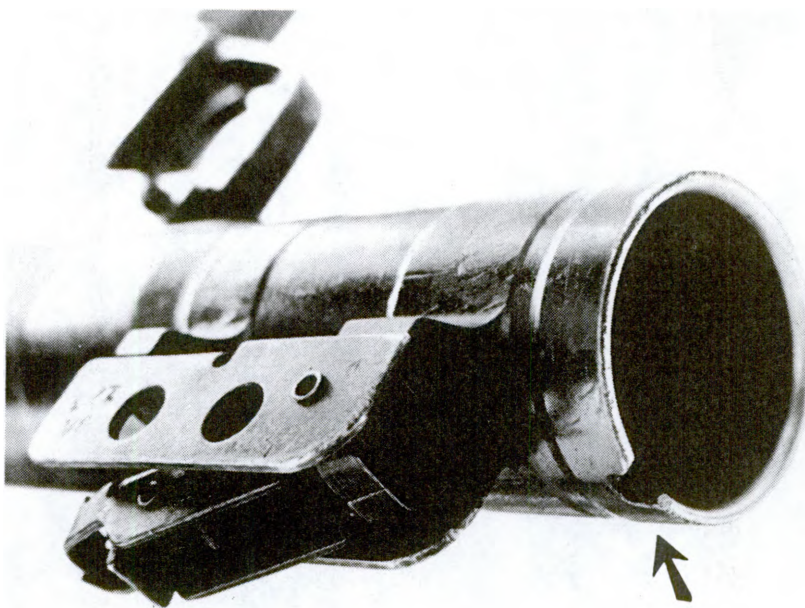

Figure 7. Notch on muzzle.
(1) Standing position should be used when trees, buildings, or other tall objects are available for cover. The standing position is less stable than the kneeling position.
(2) Kneeling position is used when low cover, such as shrubbery or low walls, is available. This position is less stable than the prone position.
(3) The prone position is used when very low cover, such as rocks or ridges of earth, is available. Although the prone position is the most stable position, the backblast may pick up more leaves, twigs, pebbles, or other debris than in other positions.
b. Aline metal stud on rocket with notch on muzzle (fig. 7).